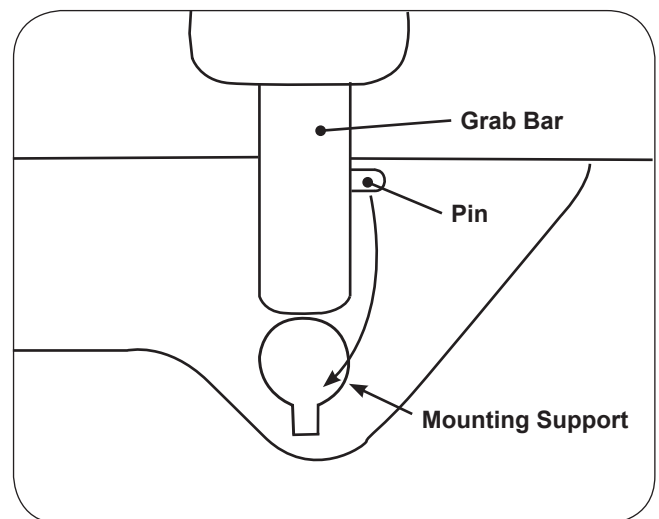

Figure 18. Grab Bar
3. Align pin on grab bar shaft with mating slot on side of table. See Figure 18.